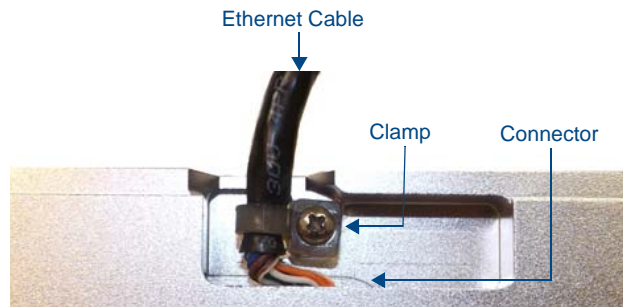

FIG. 47 Bottom of the MXT-700/1000
In tabletop installations where concealing the Ethernet cable is desired, a hole at least 1.00" (2.54 cm) in diameter is required in the surface to allow passage of the female RJ45 connector (FIG. 47). If using a smaller hole is unavoidable, you will need to disconnect the Ethernet cable (**ECA5968-05**) from the device, to feed the male end of the cable through.
2. Remove the clamp holding the Ethernet cable (FIG. 47).